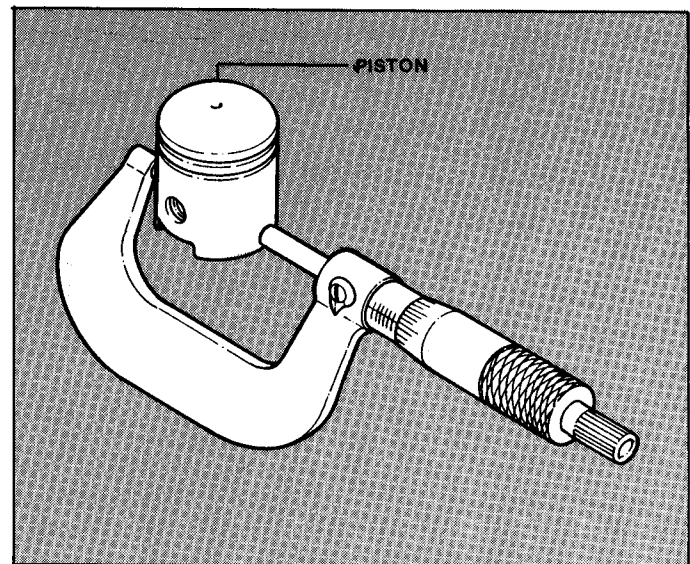

FIGURE 2.16
1. Measure the maximum diameter of piston with a micrometer. See Figure 2.16.